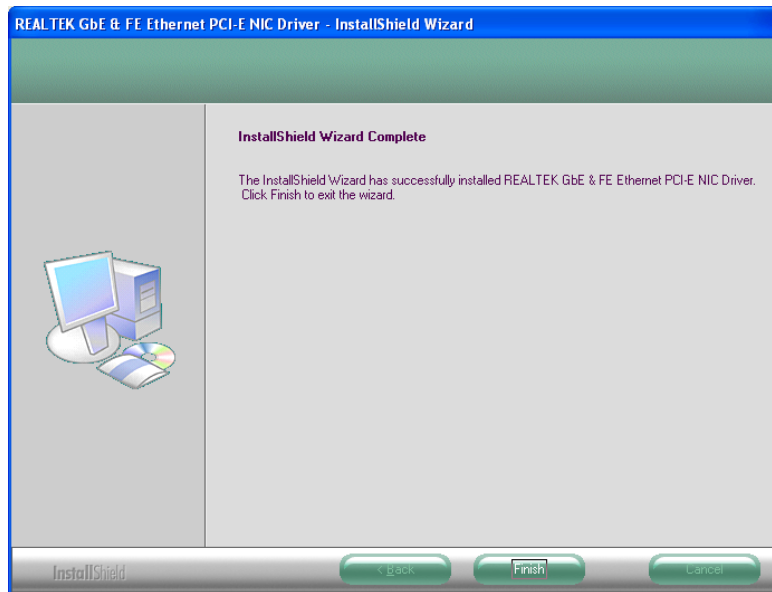

Figure 6-18: LAN Driver Installation Complete
Step 10: When the driver installation is complete, the screen in Figure 6-18 appears.